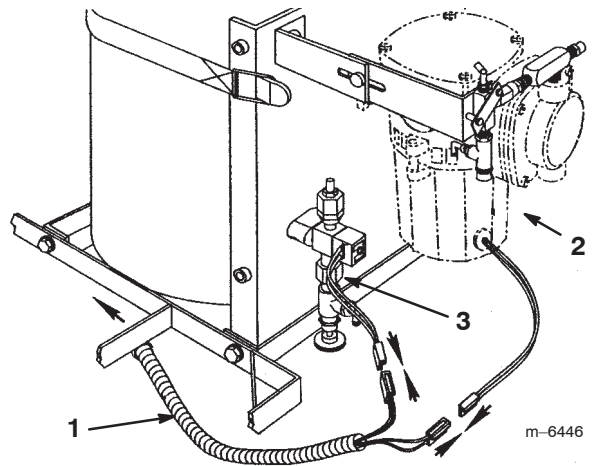

Figure 21
1. Locate the labeled connectors wiring harness for the foam marker solenoid and compressor and make the connections to the compressor and the solenoid located at the foam tank/compressor assembly (Fig. 21).
Note: Both of the plug connections are identical (Fig. 21).